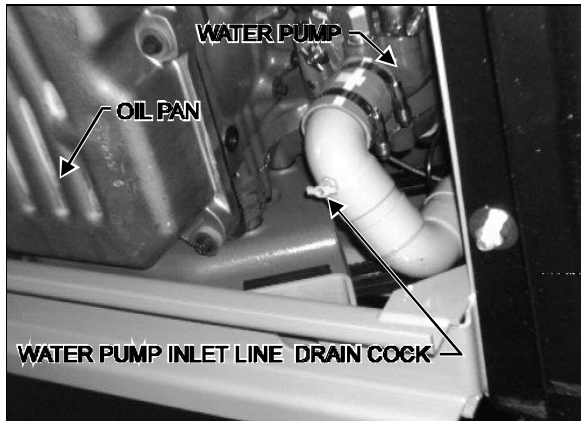

FIGURE 8: VIEW FROM UNDER THE VEHICLE 05028
4. Open the water pump housing inlet line drain cock (Fig. 8).